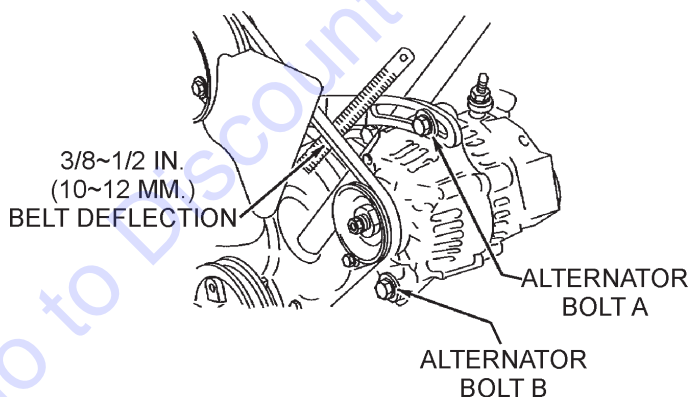

Figure 15. V-Belt Deflection
2. For long lasting V-belt life, check fan belt (Figure 15) for correct tension. There should be between 3/8-1/2-inch (10~12 mm) deflection at the center point of the V-belt between the fan and the alternator.